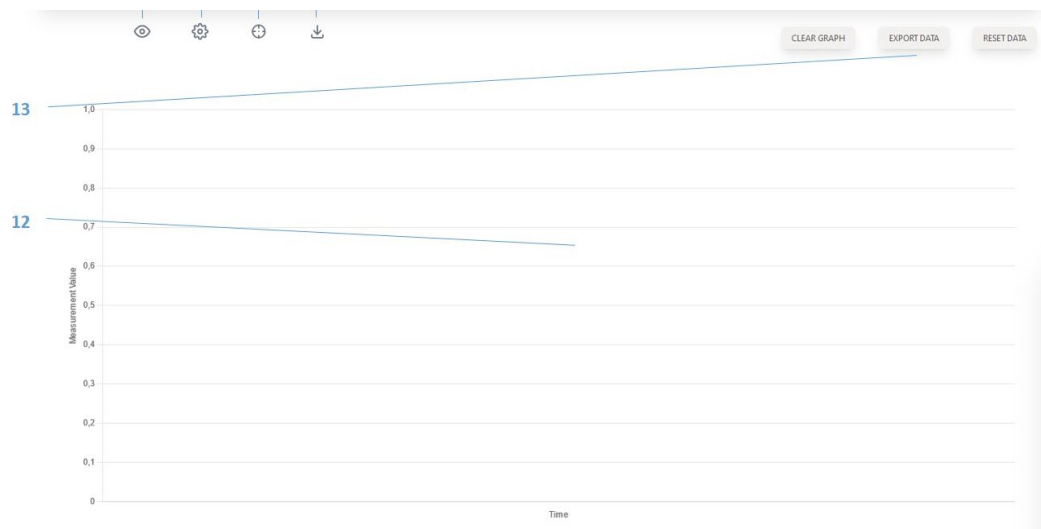

Fig. 11: Starting screen – main screen
The main screen (12) either shows a graph with the current data (e.g. for measurements or calibration, see Fig. 11) or important pop-up information. In the starting screen, the graph shown is empty, since there is not yet any data available.